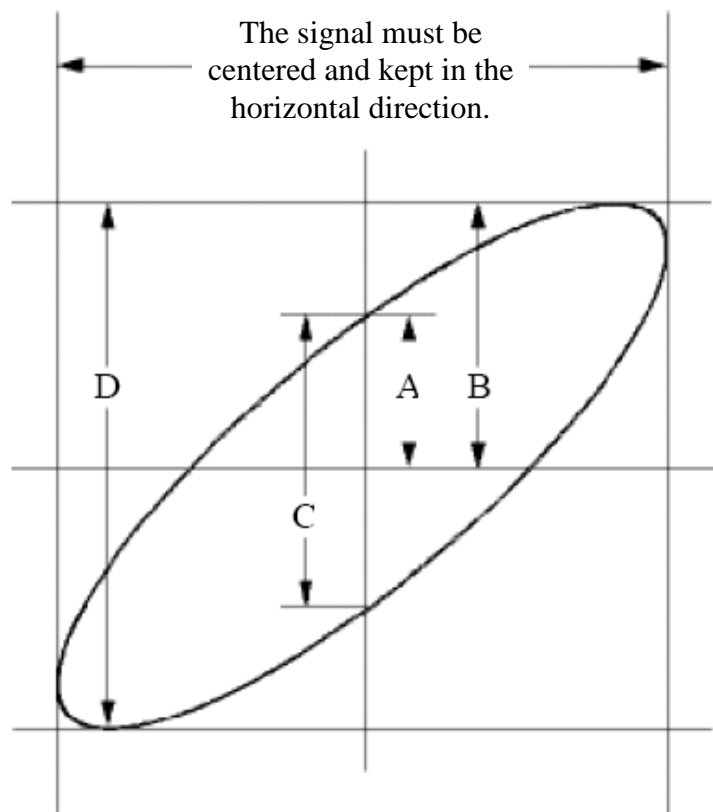

Figure 6-6 Lissajous Graph
- (8) With the elliptical oscillogram method adopted, observe and calculate the phase difference (see *Figure 6-6*).